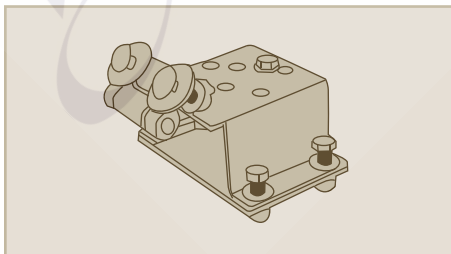

Figure 4
- ✓ 2 x Stainless Steel Hinge mounted on bracket, See Figure 4.